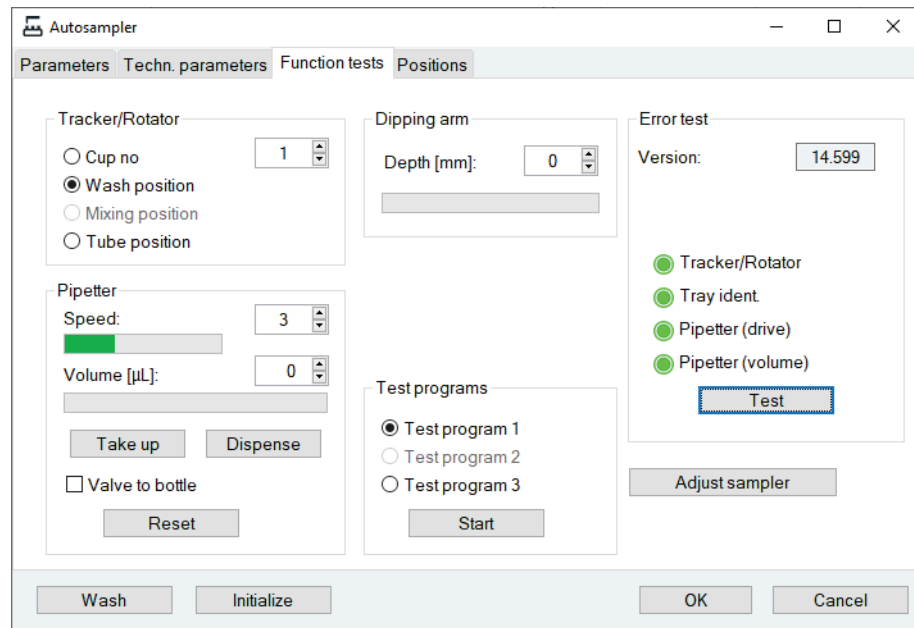

Fig. 67 Window "Autosampler/Function tests"
3. In ASpect LS open the window AUTOSAMPLER with . Change to the tab FUNCTION TESTS (Fig. 67).